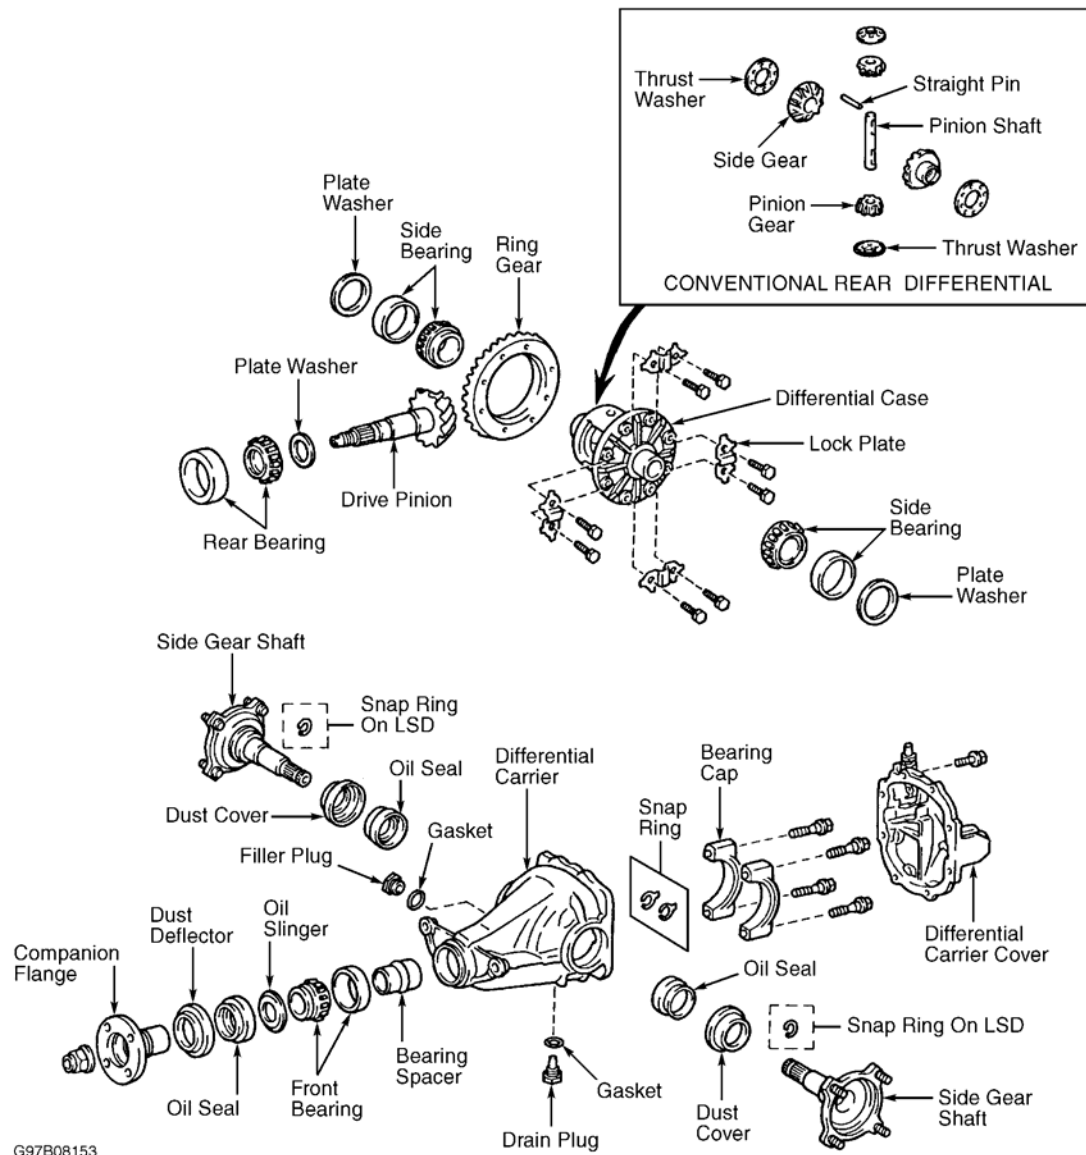

Fig. 8: Exploded View Of Rear Differential Assembly
10. Place reference marks on differential carrier and bearing caps. Remove both bearing caps. See **Fig. 8**.